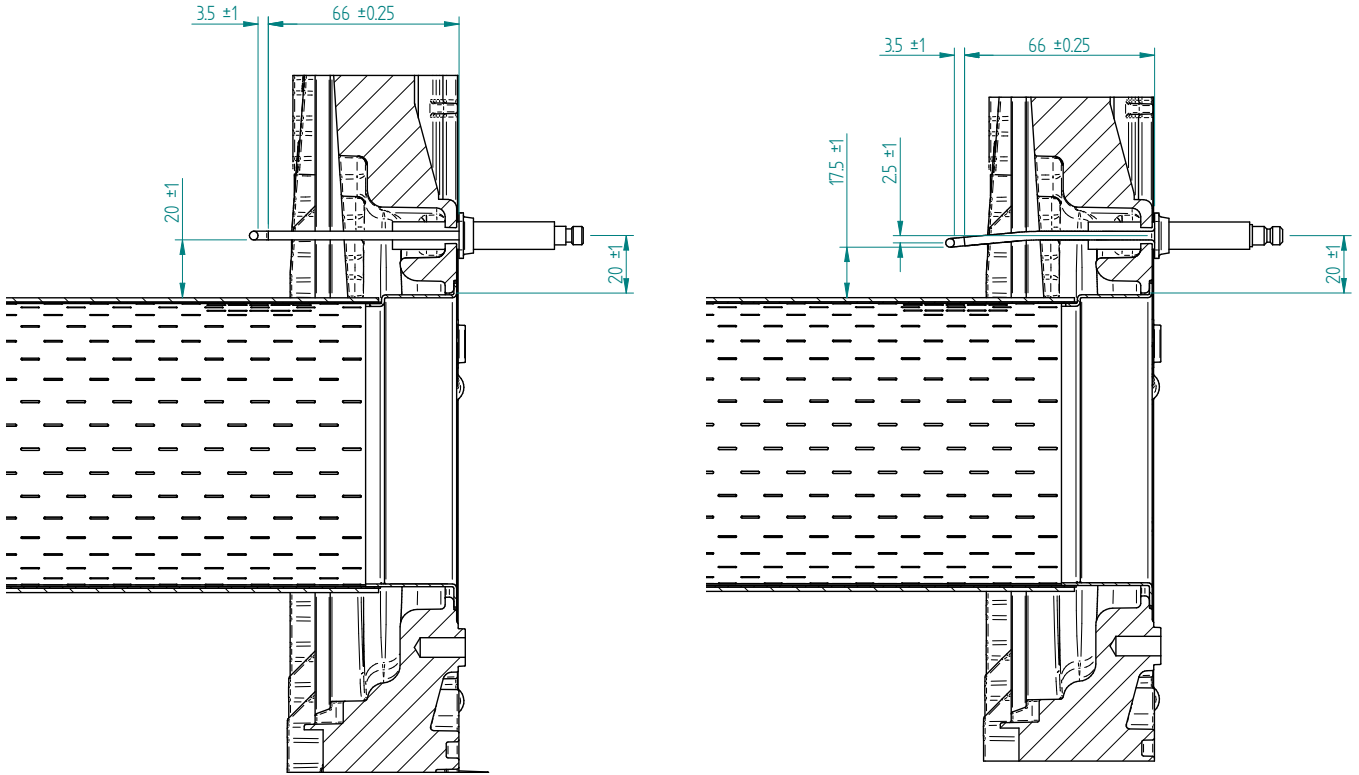

Figure 10.2.1 - Spark Electrode position
7) Remove and inspect H.T. electrode and flame probe, ensure they are free from debris or deposits. – See Figures 10.2.1 & 10.2.2
To check the position of the electrode and probe in relation to the burner, remove the burner and refer to Figures 10.2.1 & 10.2.2